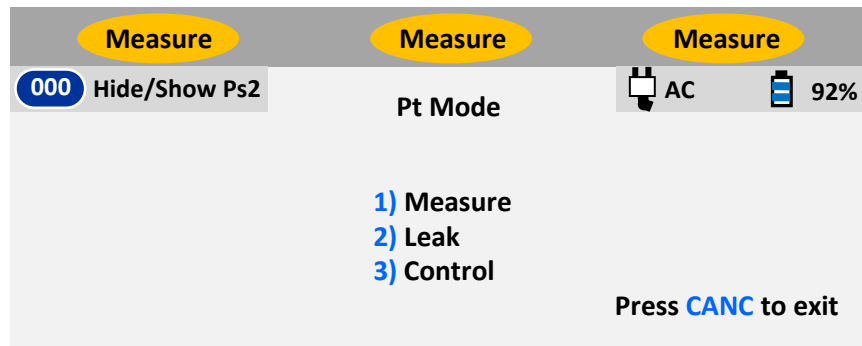

Figure 3.23 : Select Pt Mode
The Pt mode can be changed when the key# symbol (4) is displayed to the left of the Pt mode field. Press key '4' on the keypad and the Lower section of the display will appear as shown in Figure 3.23 below.